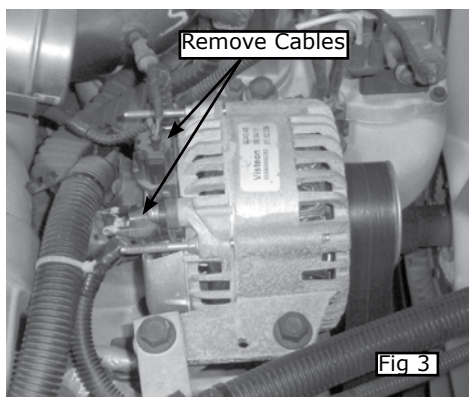

Fig 3
- 3) Remove cables from alternator. Fig 3